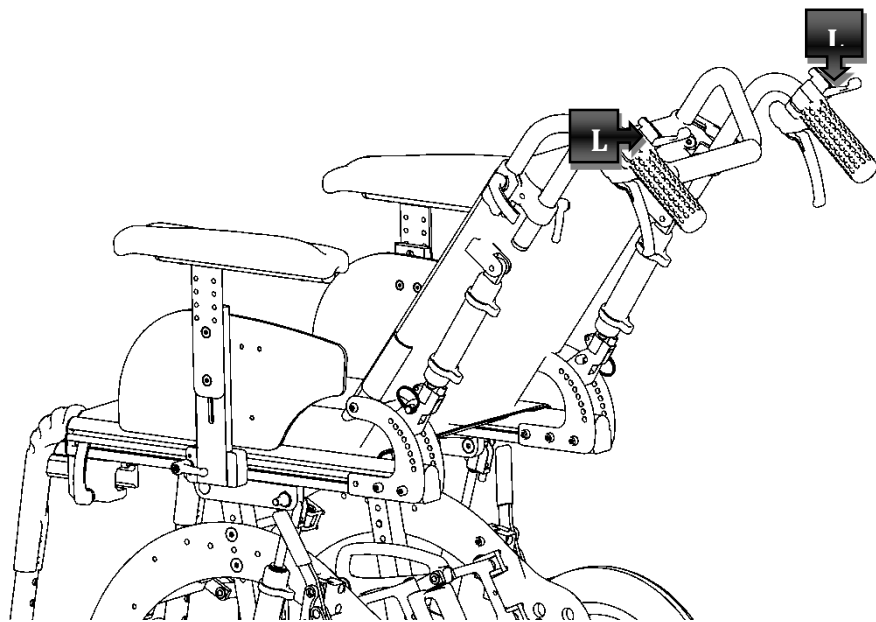

Figure 13
With the dynamic reclining backrest with gas spring you can vary the angle of inclination acting on the levers (L) located above push handles shown in Figure 13.